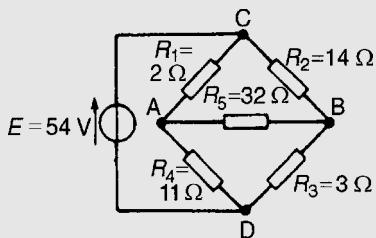

Figure 13.47
**Problem 12.** A Wheatstone Bridge network is shown in Fig. 13.47. Calculate the current flowing in the 32 Ω resistor, and its direction, using
**Hence the current in the  $32\Omega$  resistor of Fig. 13.47 is 1A, flowing from A to B**